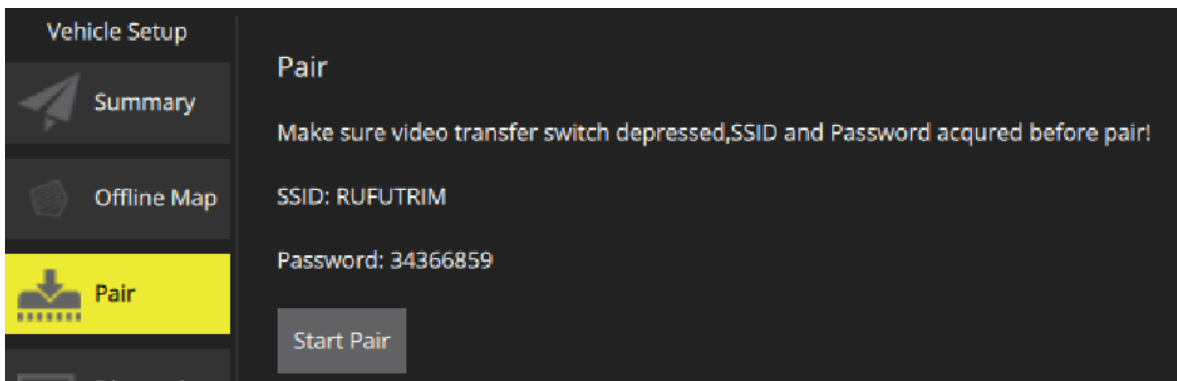

Figure 5-1
Step 2 After finding “Network Name” on the “Pair” interface, enter corresponding “Password”. “Pair” interface of ground control station is shown in Figure 5-1.